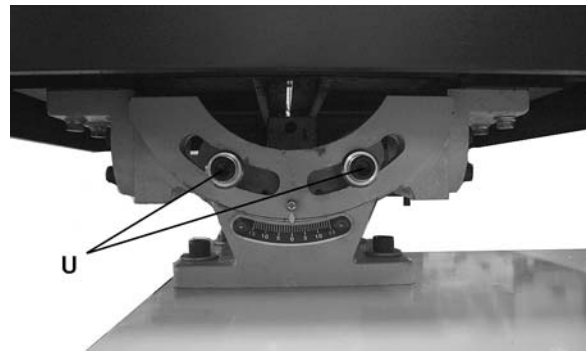
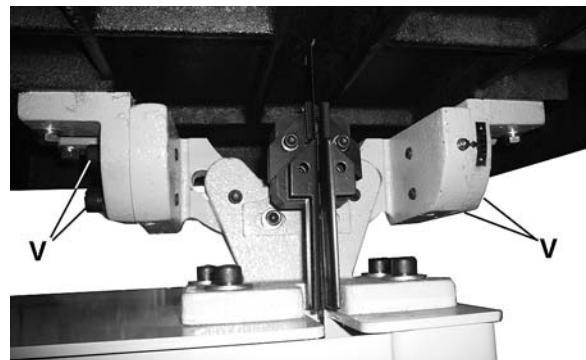

Figure 6
Figure 7
**Table Tilt Mechanism** – located under work table. To tilt table left or right, loosen two socket head cap screws (U, Figure 6) at rear of mechanism. To level table front to back, loosen four socket head cap screws (V, Figure 7) on either side of mechanism.